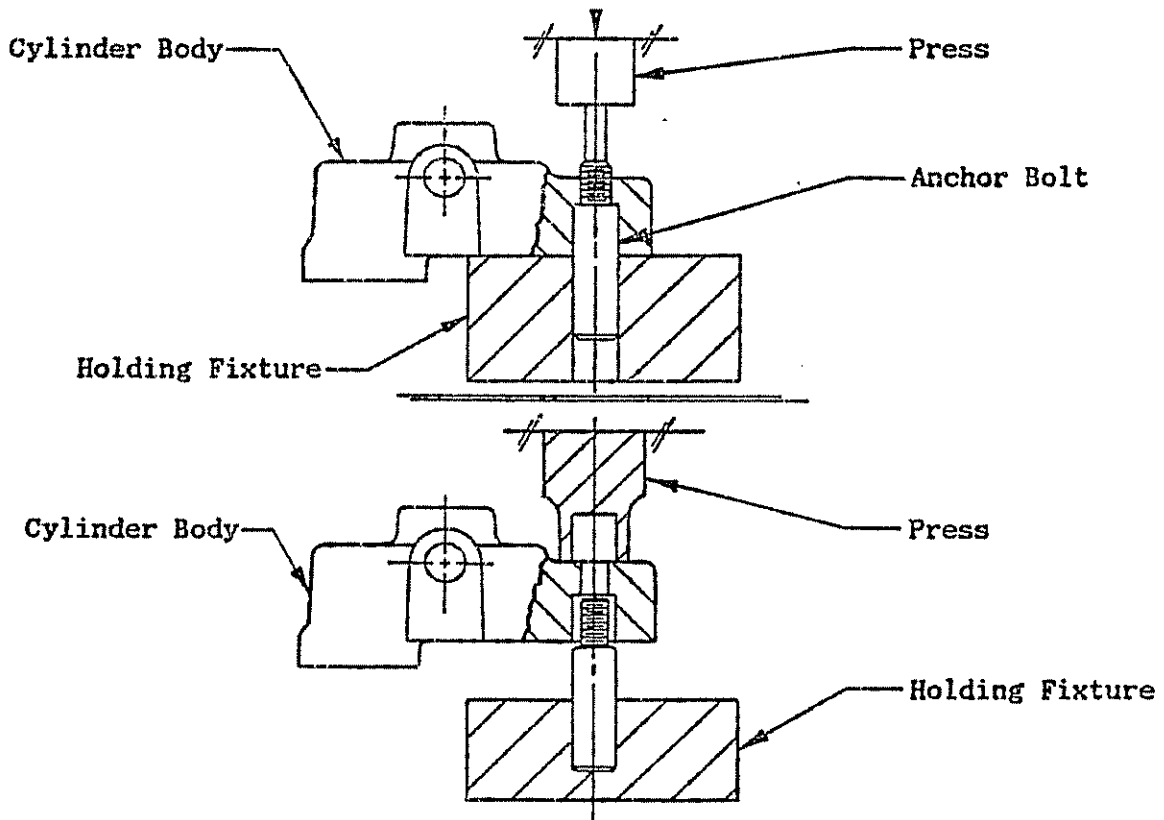

Figure 3 Anchor Bolt Removal
12.2.4.1 If removed, press anchor bolts Item #27 (ref. Figure 3) into brake and install washers Item #28 and nuts Item #29. Torque bolts to 60-70 in-lbs.